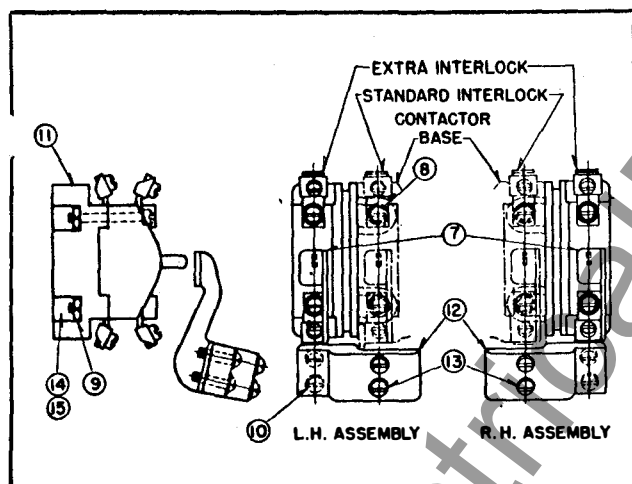

FIG. 2 Extra Interlock
**Extra Interlocks** 1. Loosen mounting screws (8) sufficient to withdraw, and discard nut (9) and retainer (14) or (15) from standard interlock.
2. Slip Moldarta sub-base (11), on which interlock unit is mounted into slots provided in contactor base and secure with screws (8) as shown in Fig. 2.
3. Remove screw assembly (13), Fig. 2, and mount operating arm supplied with interlock to Moldarta cross bar extension (12), Fig. 2.
4. Attach cross bar extension (12) to the contactor cross bar with screws and lockwashers (13) furnished with the interlock as shown in Fig. 2.